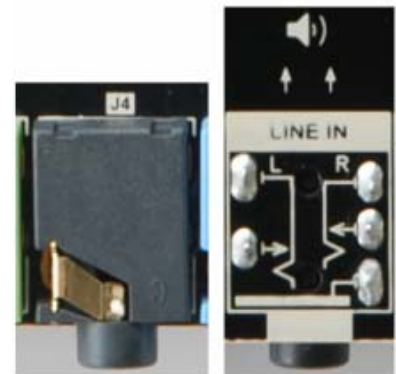

Figure 21. NB3000 Line Input.
56. Once you have built and downloaded the design, you need to plug in a sound source (such as your PC or an MP3 Player) to the NB3000's LINE IN on the front edge of the board (see Figure 21).